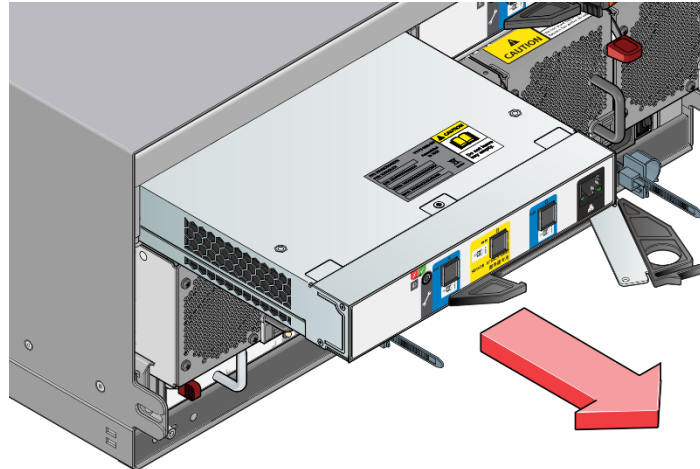

Figure 13: Removing an ESM (2)
3. Grip the latch handles and withdraw the module (Figure 13).